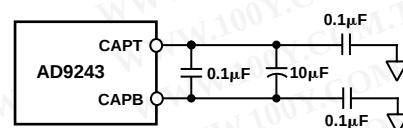

Figure 27. Recommended CAPT/CAPB Decoupling Network
The actual reference voltages used by the internal circuitry of the AD9243 appear on the CAPT and CAPB pins. For proper operation when using the internal or an external reference, it is necessary to add a capacitor network to decouple these pins. Figure 27 shows the recommended decoupling network. This capacitive network performs the following three functions: (1) along with the reference amplifier, A2, it provides a low source impedance over a large frequency range to drive the A/D internal circuitry, (2) it provides the necessary compensation for A2, and (3) it bandlimits the noise contribution from the reference. The turn-on time of the reference voltage appearing between CAPT and CAPB is approximately 15 ms and should be evaluated in any power-down mode of operation.